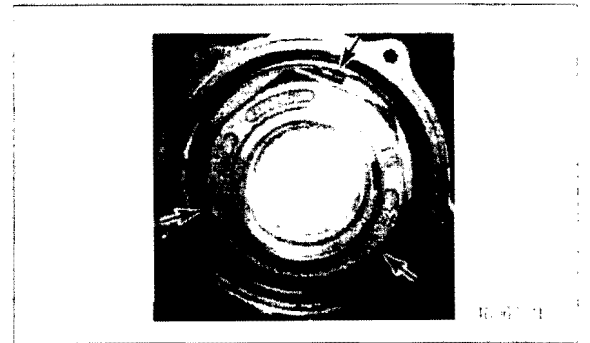
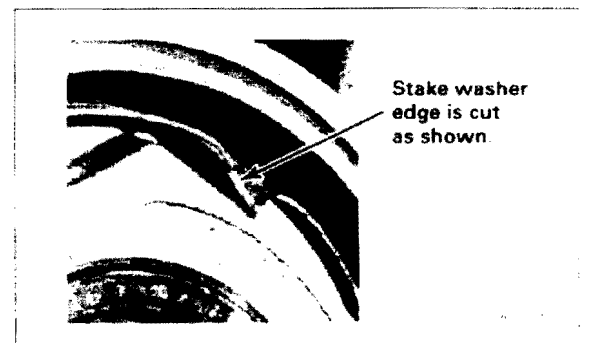

Figure 3
Figure 4
5. Grasp the tire and wheel end assembly at the 12 and six o'clock positions. Check for vertical and horizontal movement. With your hands, apply approximately 50 lb (23 kg) of force to the assembly. You should not feel or see any looseness or movement. Figure 3.
6. Use a hammer and staking tool (part number AM21225831) to stake the stake washer to the spindle nut in **three** positions. Bend the washer to the stake profile as shown. Figure 3 and Figure 4.